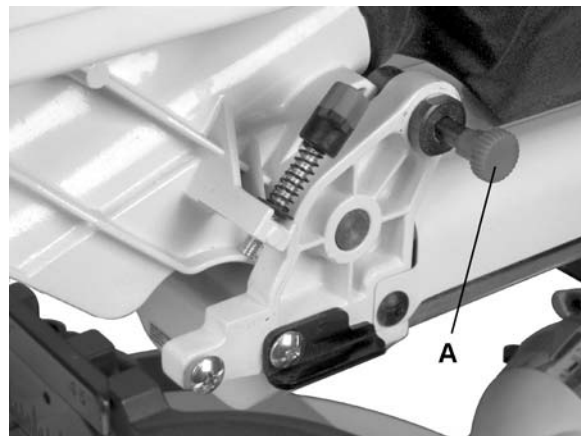

Figure 2
2. Pull out the *hold-down latch* (A, Fig. 2).
2. Press the *hold-down latch* (A, Fig. 2) *in* to lock.